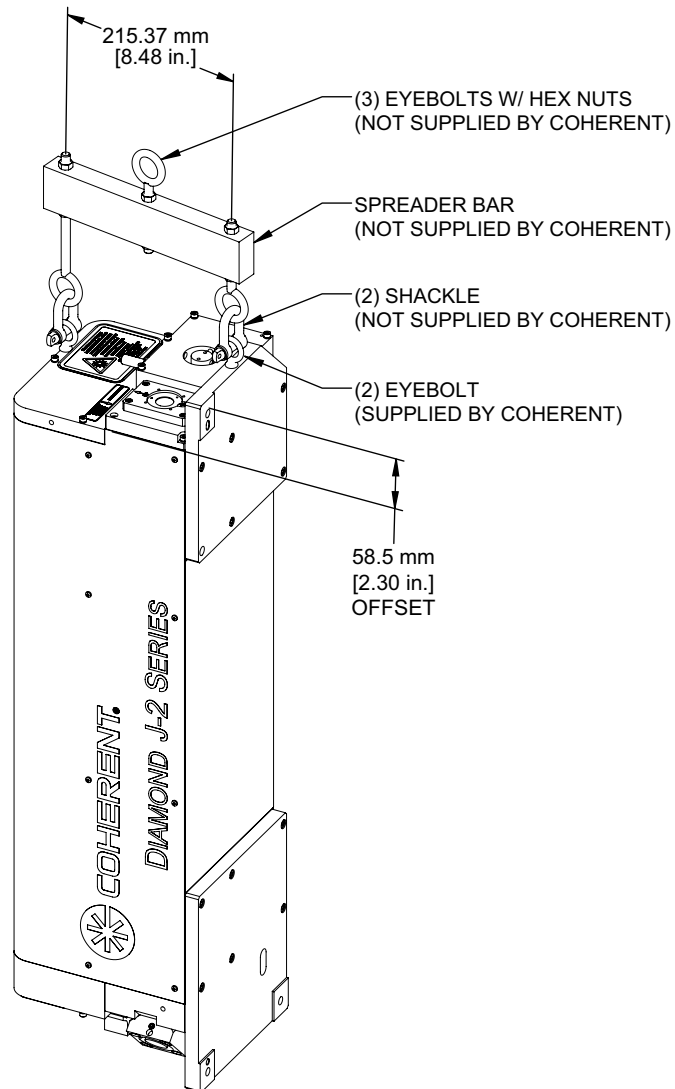

Figure 4-15. Vertical Mounting Illustration
Install eyebolts into screw holes. See Figure 4-14 for screw hole locations. Do NOT use the top eyebolt locations during vertical lift (refer to Figure 4-15 on page 69).
1. Securely connect appropriate slings or chains to the eyebolts and a user-supplied spreader bar. Chains/slings must be vertical when under load. See Figure 4-15.
2. Carefully lift the laser system while preventing the free end from moving around. See Figure 4-15.